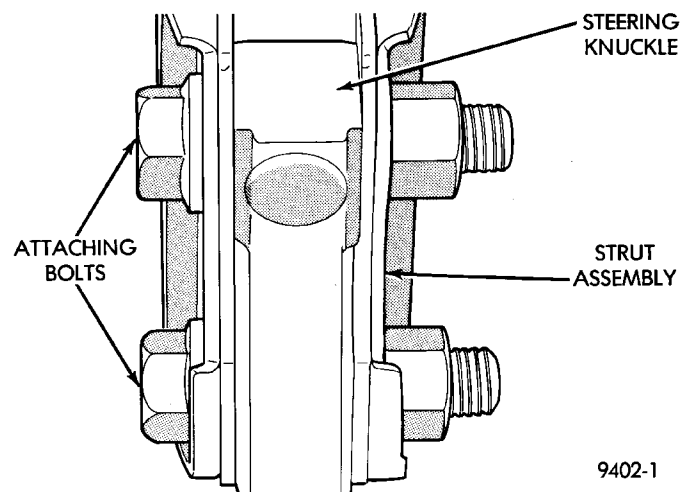

Fig. 12 Strut To Steering Knuckle Attaching Bolts
- (6) Remove the 2 bolts (Fig. 12) attaching the strut to the steering knuckle.
(2) Align strut assembly with steering knuckle. Position arm of steering knuckle into strut assembly, aligning the strut assembly to steering knuckle mounting holes. Install the 2 strut assembly to steering knuckle attaching bolts (Fig. 12). Attaching bolts should be installed with the nuts facing the front of the vehicle. Torque both attaching bolts to 53 N·m (40 ft. lbs.) plus an additional 1/4 turn after specified torque is met.